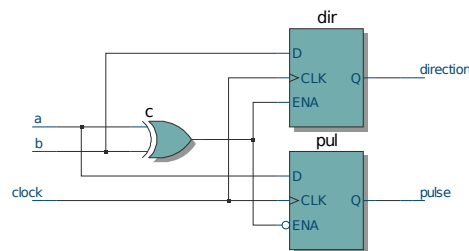

Figure 14: RTL view of synchronous design
*Direction* and exactly with the timing needed for edge triggered devices! For completeness sake, let's also look at the now quite boring RTL view in figure 14. Just one XOR gate and two D-type flip-flops with clock enable input. When